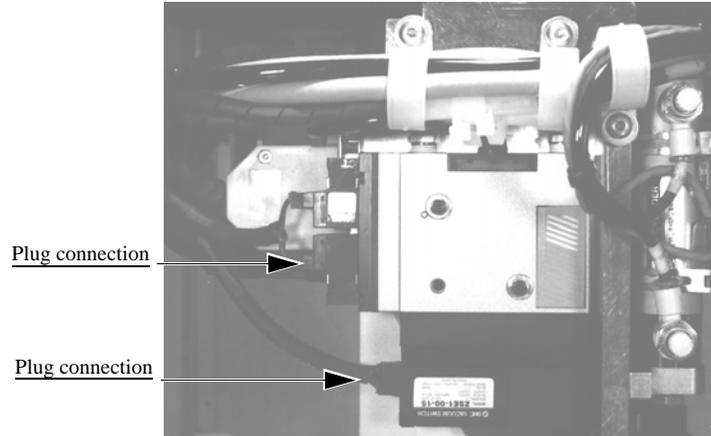

Figure 6-13—PNP robot wiring harness plug connections
- 1b) Check PNP robot wiring harness plug connections and make sure that they are secure. See Figure 6-13.